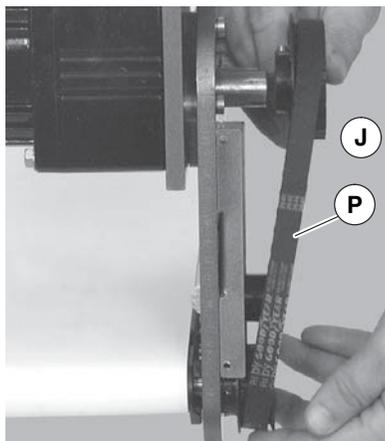

Figure 18
<p>If drive pulley (Figure 18, item J) was replaced, wrap timing belt around drive pulley and complete step 3.</p>
6. Loosen drive pulley set screws (Figure 18, item Z). Remove drive pulley (J) and timing belt (P).
If drive pulley (Figure 18, item J) was removed, wrap timing belt around drive pulley and complete step 11.